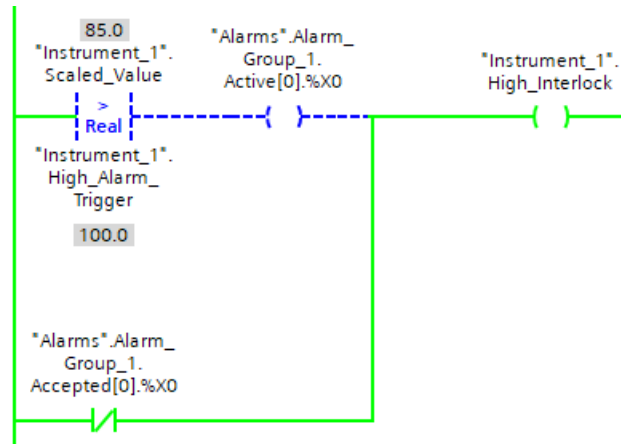

Figure 12.21 – A latched alarm in the HMI
*Figure 12.21* shows an example of accessing `bits` in a `Dword` data type. This can be done by dragging the required `Dword` (or any other numerical data type) into the instruction and then adding `.%X` to the end, where `` is replaced with the `bit` number required.